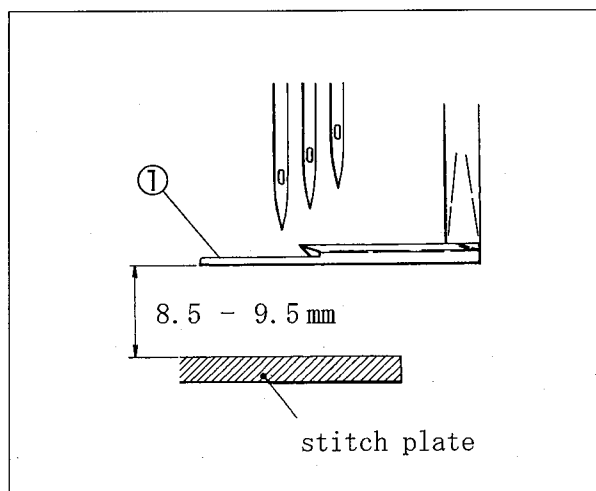

Fig. 6-10
- (4) Make the height from the top of the stitch plate to the bottom of the spreader ① to 8.5 - 9.5 mm. Then tighten the screw ③ securely. (Fig. 6-10 and 6-11)